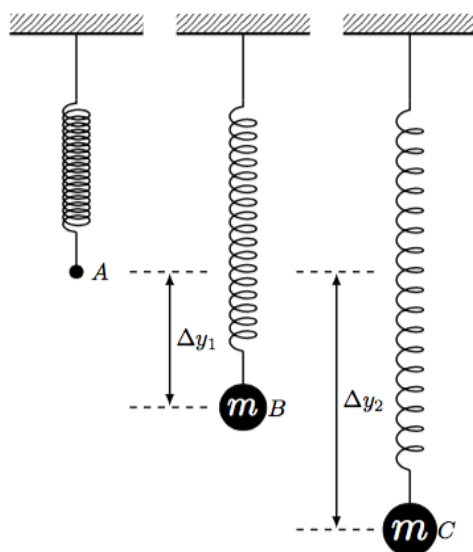

Figure 1
- 1.5. Attach the least massive weight to the spring and measure the displacement Δy (see **Figure 1**). Record this displacement in **Table 1**.
(Insert Figure 1)